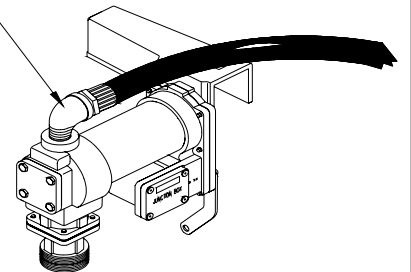

Figure 1.
To install meter on a Series BD1200 pump (see Figures 1 & 2):
1. Remove 3/4" street elbow from outlet (top) of pump. See Figure 1. Save street elbow for step #3.